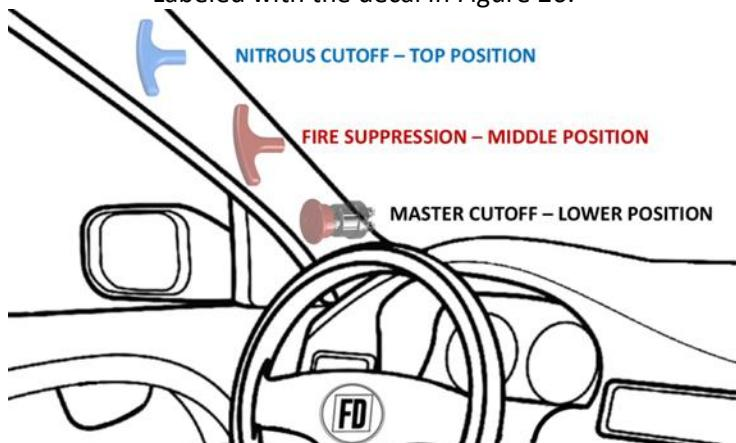

Figure 25
- RED E-stop style switch must be located on the driver's side A-pillar and be easily accessible. Refer to Figure 25.